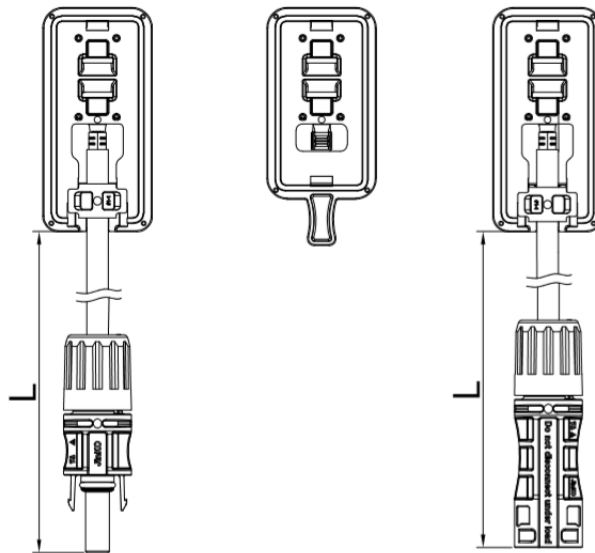

Fig. 12 The half-cut cell module/ split junction box
- l) The length of the junction box shall be determined according to the component specifications and the customer's design proposal. As shown in Figure 12 below, consider the length of the lead wire before designing the wiring.